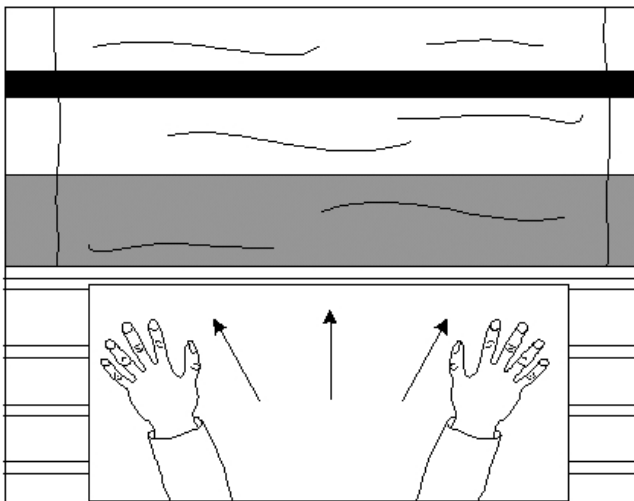

Fig 29
10. With both hands and an outward force push the image slower than the speed of the rollers into the nip of the heat rollers (Figure 29).